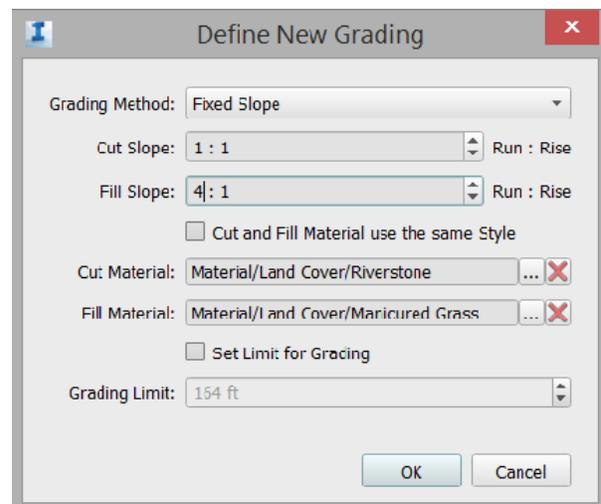

Figure 10
7. Set the following options, as shown in Figure 10.